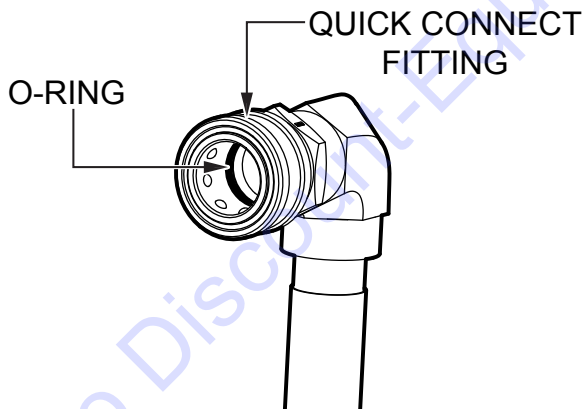

Figure 20. O-Ring Inspection
3. Inspect the O-rings inside each of the quick-connect fittings for damage or wear (Figure 20). Replace if necessary.